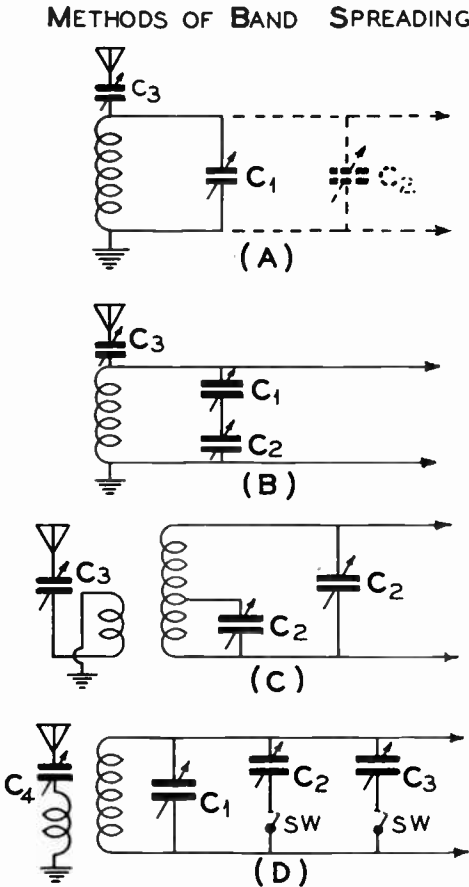

Fig. 1
gear. The system is quite satisfactory, but rather difficult to manufacture by the average amateur or experimenter. Practically the same effect can be obtained by means of electrical band-spread. Almost all receiver circuits use a variation in the capacity of the tuned circuit for tuning purposes. In order to obtain a small variation in tuning it is essential that the capacity be increased or decreased by a small amount. However, difficulty is encountered in varying the capacity of a large condenser by small increments or decrements, but in an electrical band-spreading system utilizing two tuning condensers—one large condenser to give rough tuning, the other, a very small condenser (two or three plates) may be connected in a wide variety of combinations to give the electrical effect of "fine" or "vernier" tuning. The first system is shown in Figure 1 (A). It is the most common system and consists of a small condenser C_2 , connected directly in parallel with the large condenser C_1 . In most high-frequency receivers the capacity of C_1 will be chosen so that the coil and the condenser combination will cover a frequency range of between 2-and-3-to-1. The condenser C_2 is much smaller than C_1 and will often be chosen so as to cover a band of approximately 1000KC.
Figure 1 (B) shows a band-spread condenser in series with the main tuning condenser. Because the capacity of two condensers in series is always smaller than the capacity of the smaller of the two condensers, it will be seen that both condensers in Figure 1 (B) must be considerably larger in capacity than the corresponding condensers in Figure 1 (A) in order to cover the same frequency ranges. Both of the systems shown in Figures 1 (A) and 1 (B) have the disadvantage in that the degree of band-spread varies with the tuning of C_1 , and thus if a given coil covered both 40 and 20 meters, the system may provide too much band-spread for 40 meters and not enough band-spread for 20 meters. In Figure 1 (C) the band-spread effect can be kept constant over a wide range of frequencies by tapping the band-spread condenser across part of a coil, instead of being tapped across the entire coil, as in Figure 1 (A). The position of the tap varies with frequency. On the larger low-frequency coils, the tap will be placed near the top of the coil. On small high-frequency coils, the tap will be placed proportionately farther down on the coil in order to maintain an approximately constant degree of band-spread. This system has the disadvantage in that some selectivity is lost in the tuned circuit. Figure 1 (D) shows another means of equalizing the degree of band-spread over a wide range of frequencies. C_1 is the conventional large tuning condenser of between 140 and 350 mmfd.
C₂ and C₃ are both band-spread condensers. C₂ has approximately 50 mmfds. for band-spreading the 80 and 160 meter bands; C₃, from 15 to 20 mmfd., is best for use on the 40 and 20 meter bands. The proper condenser is chosen by means of switches, as shown in Fig. 1 (D). A disadvantage of switching is that rather long leads are required, as well as a possibility of losses in the switch contact.